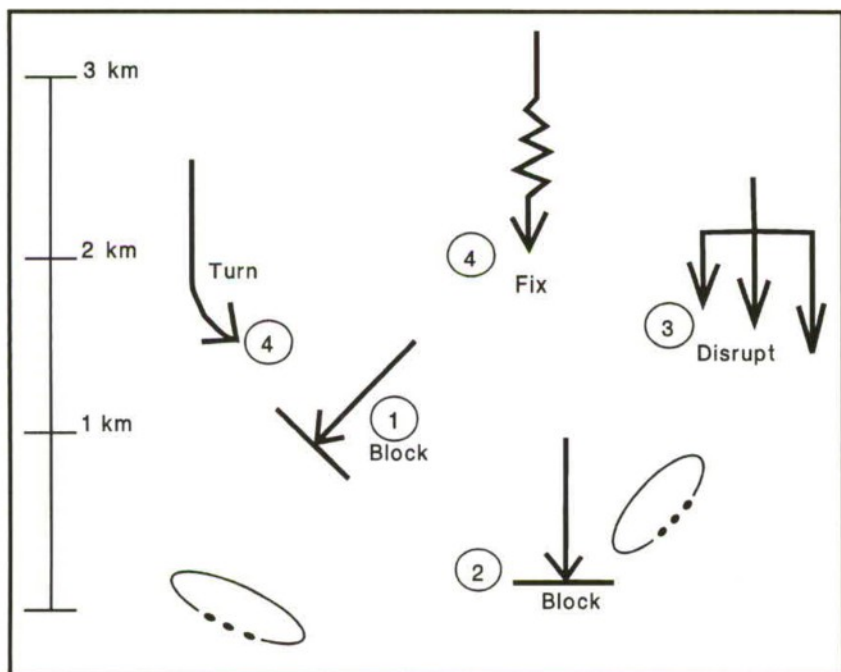

Figure 4-4. Considerations for obstacle employment.
In general, obstacles are used to disrupt, turn, fix, and block the enemy based on the factors of METT-T. Figure 4-4, page 4-10, illustrates considerations for obstacle employment in relation to platoon BPs. If the commander does not specify an intent for obstacles, the platoon leader should analyze the situation and plan hasty or engineer-emplaced obstacles to meet these purposes:
- To block the final assault of an enemy force to the front of the platoon (the circled number "1" in Figure 4-4).